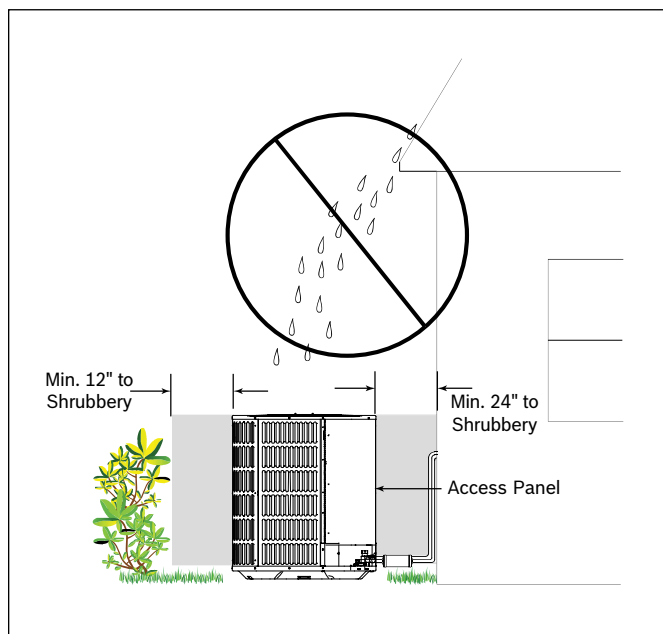

Figure 5
- ▶ Units should be elevated 3-12 inches above the pad or rooftop, depending on local weather. This additional height will allow drainage of snow and ice melted during defrost cycle prior to its refreezing. Ensure that drain holes in unit base pan are not obstructed, which could prevent the drainage of defrost water (Fig. 5).